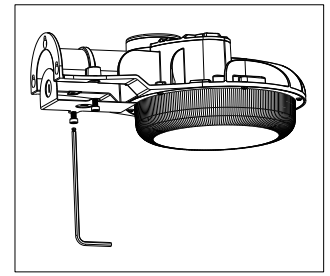

Figure 6
3. Tear down the wall installation accessories from the lighting fixtures by M6 hex wrench (Figure 6)